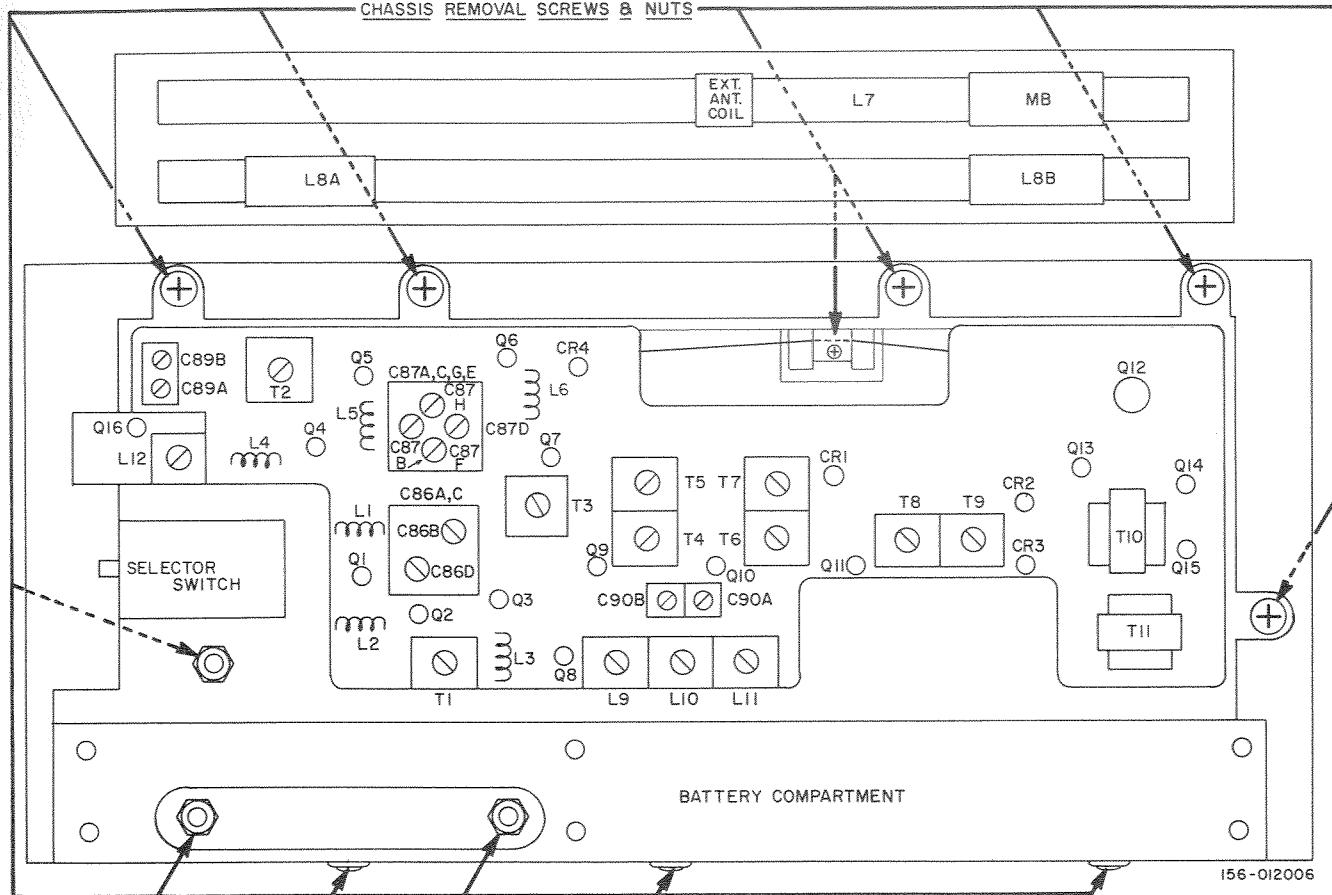

Figure 7. Alignment Points and Transistor Location.
4. Remove the eight screws and three nuts shown in figure 7, to release the chassis from the cabinet. Slide the chassis out of the cabinet as far as the leads to the front panel will allow. These leads are long enough to permit the vertical receiver chassis to swing to a horizontal position, with the battery holder placed under the speaker magnet.